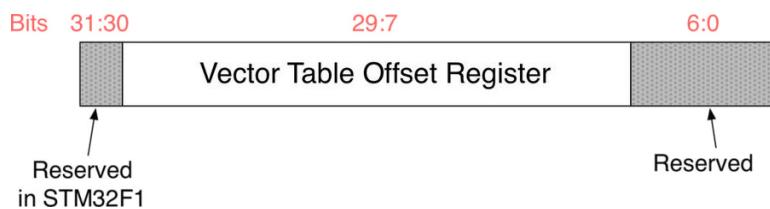

Figure 2: The structure of the VTOR register
- In STM32F1 MCUs, which are based on the Cortex-M3 r1p0 core revision, the bits [31:30] of the VTOR register are reserved (see Figure 2) and hence it is possible to relocate the *vector table* only in the code memory (**0x0000 0000**) and in SRAM (**0x2000 0000**).